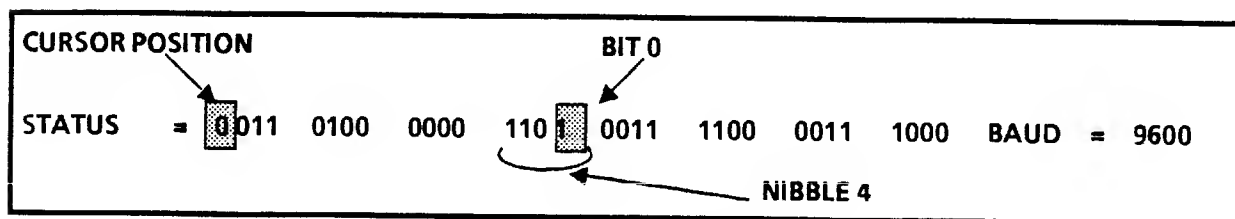

Figure 3-2 Inverse Video Setup
5. SETUP THE TERMINAL FOR INVERSE VIDEO (FIGURE 3-2).